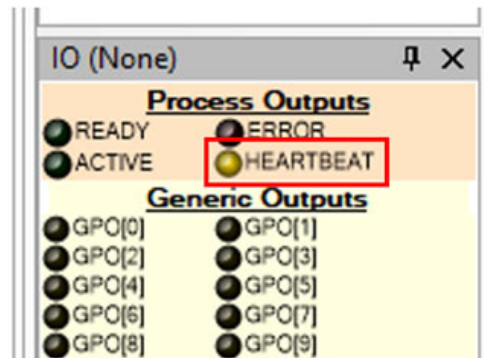

Figure 372: Heartbeat Signal
5. Close and restart IPGScan. Once users reconnect to the scanner, a Heartbeat signal will be present in the IO Window of IPGScan. See Figure 372 (below).